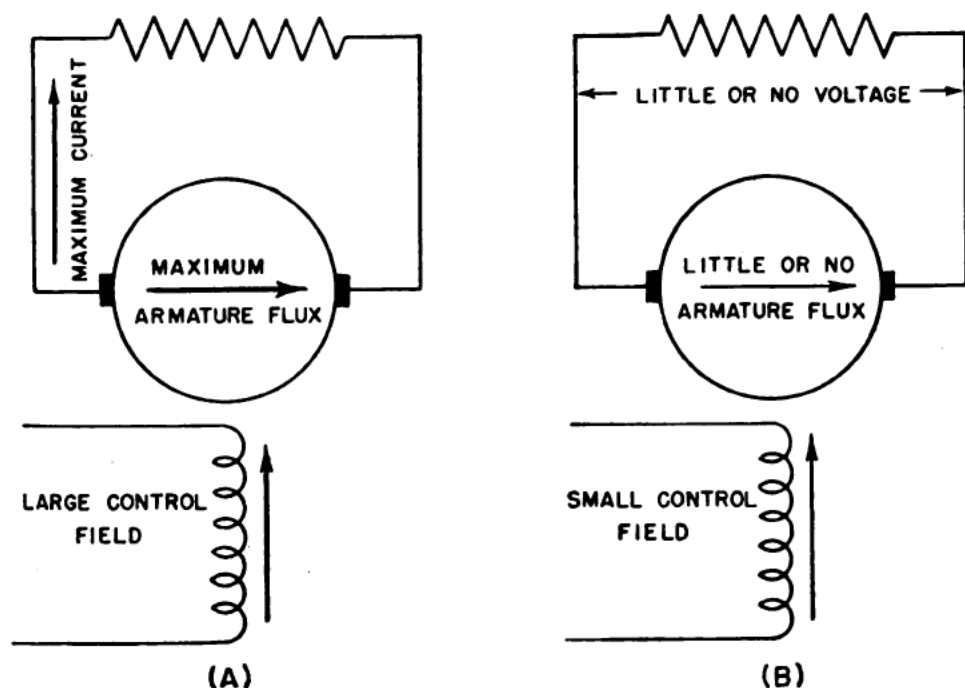

Figure 106.—Effects of large and small control field.
In figure 106 (A), you make the control field large enough so that the full-load current of the generator will flow and a large armature flux will be produced. If you decrease this field, there will be little or no voltage generated across the load, and no load current will flow. If you have no load current, you have no armature flux. This action is shown in figure 106 (B).